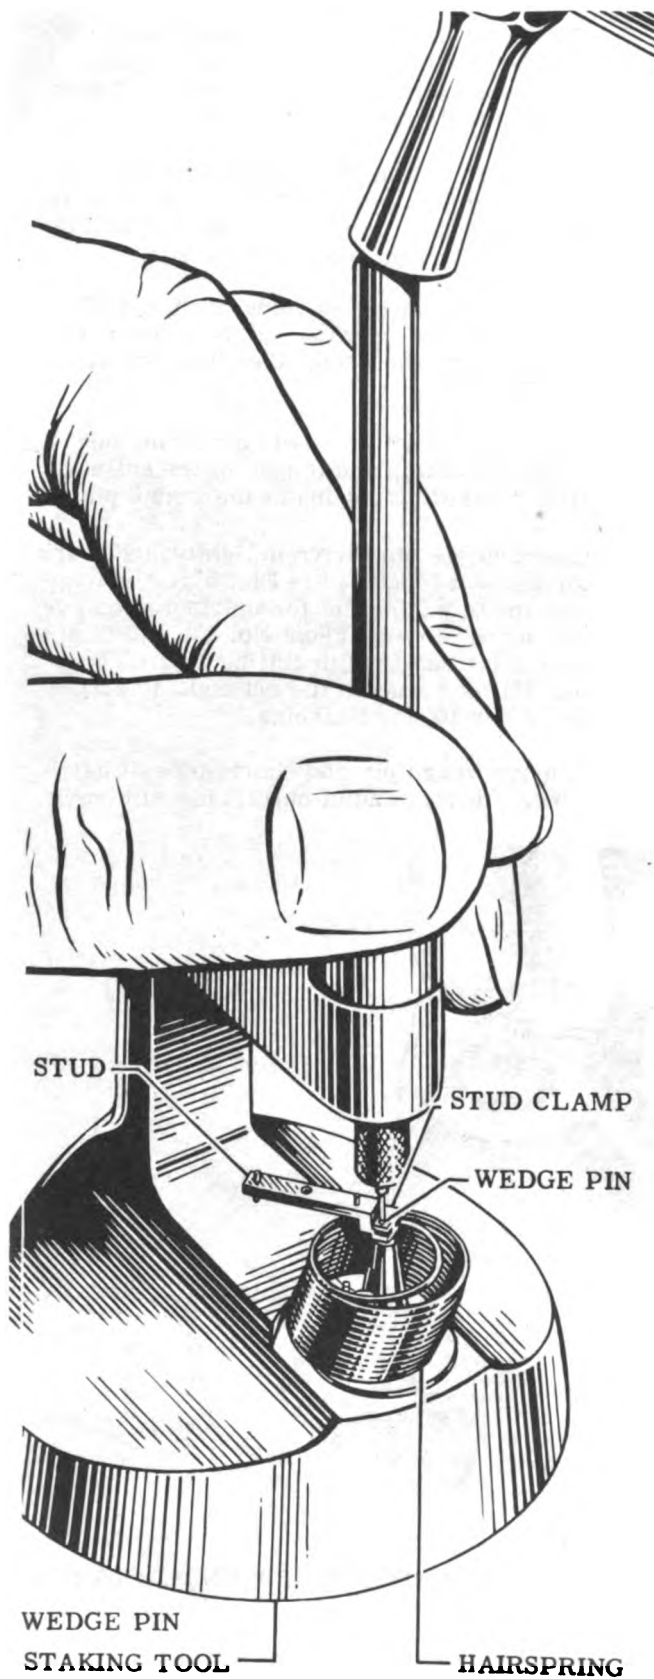

Figure 48
1. Drive out clamp wedge pin of hairspring collet or stud on wedge pin staking tool (Tools Nos. 9 and 17), and withdraw hairspring. See Fig. 48.